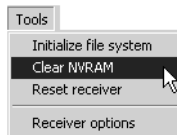

Figure 4-12. Clear NVRAM with PC-CDU
2. Click **Tools** ▶ **Clear NVRAM** (Figure 4-12). The REC LED flashes green and red; the STAT LED flashes red.